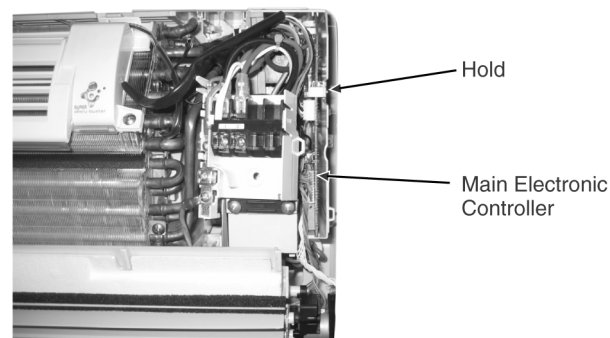

Fig. 4
- Release the hooks that hold the Main Electronic Controller and pull out the Main Electronic Controller. (Fig. 4)